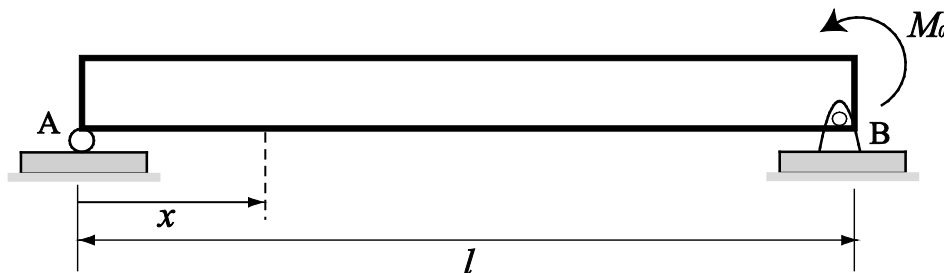

Figure Q3[a]
- Q3. [a] Determine the equation of the elastic curve for the beam that is subjected to moment M as shown in the Figure Q3[a] using the x coordinate. Calculate the slope at A and the maximum deflection of the beam. EI is constant.